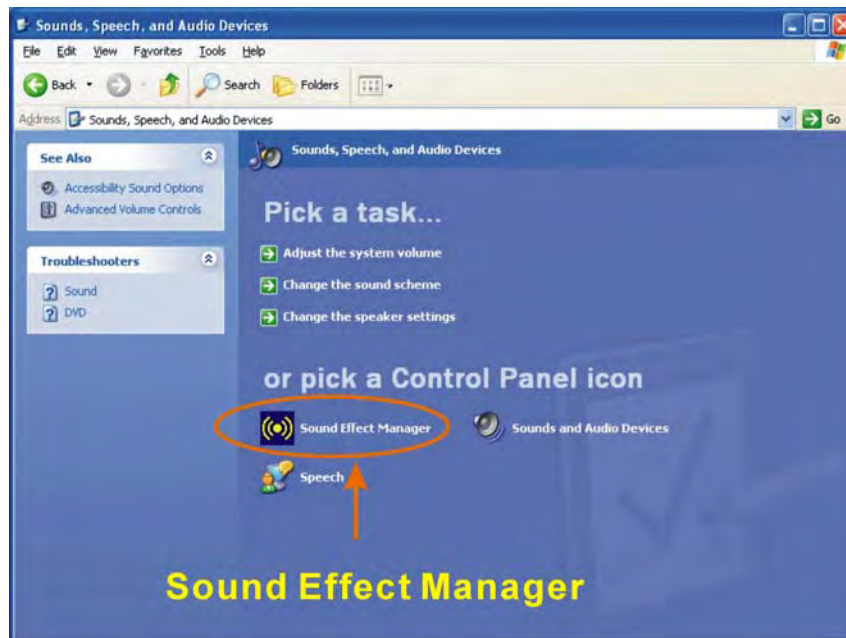

Figure C-3: Sound Effect Manager Icon [Control Panel]
- The Sound Effect Manager icon in the Control Panel (**Figure C-3**).